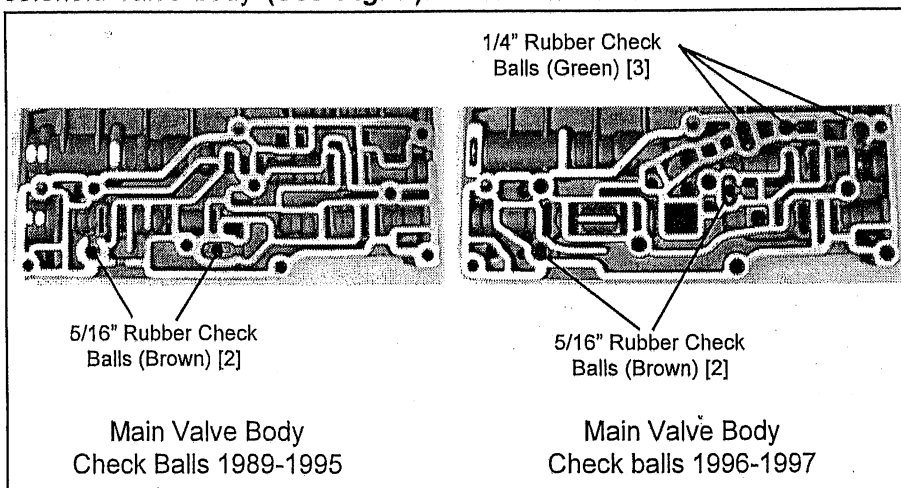
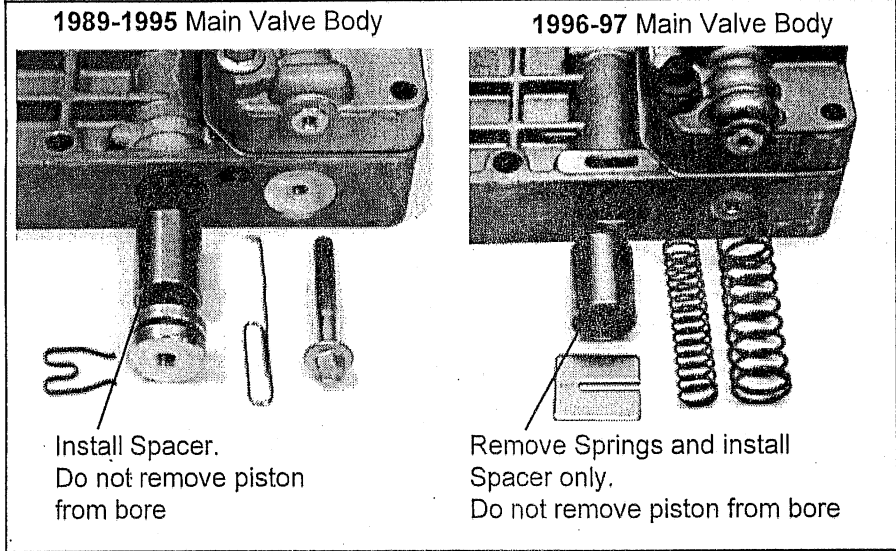

Figure 4. Main Valve Body Check Balls
Figure 8. Main Valve Body Timing Valve Modification.
Step 10. Modify the Main Valve Body as shown in Figure 8. You do not have to remove the Lower Valve from the Main Valve Body to install the kit components. We have provided the Check Ball location diagram for the Lower Valve Body in case it is needed (See Fig. 4).